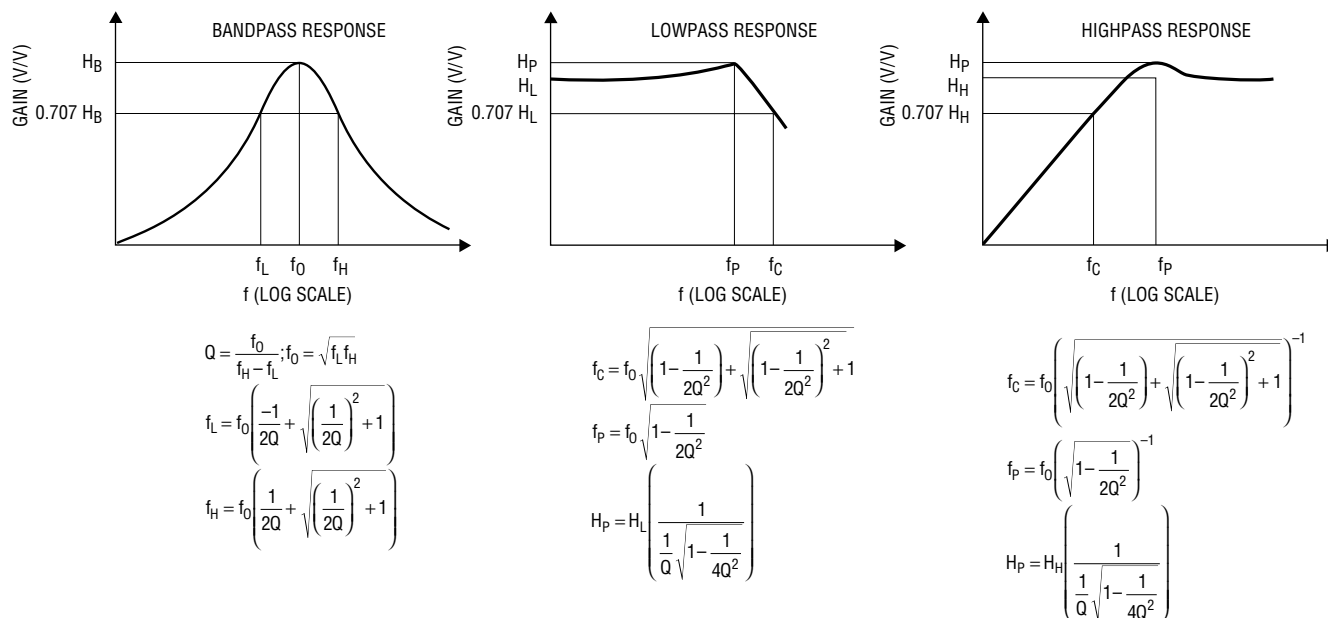

Figure 4. Characteristics of Standard 2nd Order Filter Responses
Figure 4 shows further details of 2nd order lowpass, bandpass and highpass responses. Configurations to obtain these responses appear in the next three sections.
at frequency  $f_0$ , and for  $Q > 0.707$ , a gain peak occurs at a frequency below  $f_0$ , as shown in Figure 4.
$\omega_0 = 2\pi f_0$  and  $Q$  are set by  $R_2$  and  $R_Q$  as described previously in Setting  $f_0$  and  $Q$ . When  $Z_{IN}$  is a resistor of value  $R_{IN}$ , a bandpass response results at the V1 output (Figure 6a) with a gain parameter  $H_B = R_Q/R_{IN}$ . Alternatively, a capacitor of value  $C_{IN}$  gives a bandpass response at the V2 output (Figure 6b), with the same  $H_{BP}(s)$  expression, and the gain parameter now  $H_B = (R_Q/10k\Omega)(C_{IN}/159pF)$ . This transfer function has a gain magnitude of  $H_B$  (its peak value) when the frequency equals  $f_0$  and has a phase shift of  $180^\circ$  at that frequency.  $Q$  measures the sharpness of the peak (the ratio of  $f_0$  to  $-3dB$  bandwidth) in a 2nd order bandpass function, as illustrated in Figure 4.
Parameters  $\omega_0 = 2\pi f_0$  and  $Q$  are set by  $R_2$  and  $R_Q$  as above. The highpass gain parameter is  $H_H = C_{IN}/159pF$ . For a 2nd order highpass response the gain magnitude at frequency  $f_0$  is  $QH_H$ , and approaches  $H_H$  at high frequencies ( $f \gg f_0$ ). For  $Q > 0.707$ , a gain peak occurs at a frequency above  $f_0$  as shown in Figure 4. The transfer function includes a sign inversion.
Standard 2nd order filter algebra, as in Figure 4 and the various transfer-function expressions in this data sheet, uses a center frequency parameter  $f_0$  (or  $\omega_0$ , which is  $2\pi f_0$ ).  $f_0$  can also be measured in practical ways, including:
- The geometric mean of the  $-3.01\text{dB}$  gain frequencies in a bandpass ( $\sqrt{f_L f_H}$  in Figure 4)